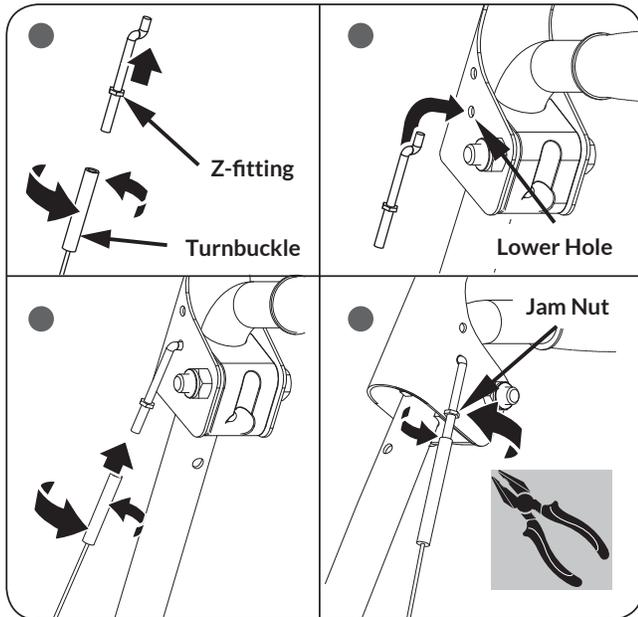

Figure 7b
2. Disconnect the Z-fittings from the turnbuckles and hook them into the lower holes in the clutch levers. Thread the turnbuckles without turning the cables onto Z-fittings until there is no slack in the cables. Do not overtighten the cables. Hold the flats on the turnbuckles with pliers and tighten the jam nuts against the turnbuckles. (See **Figure 7b** steps 1 - 4)